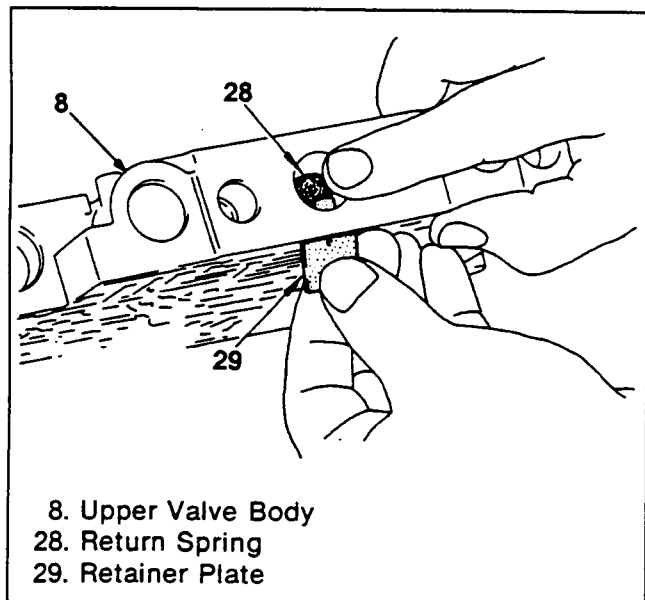

Figure 110. Retainer Plate Removal (2)
2. Remove retainer plate (total 4 pcs) while holding the inside parts with your fingers to prevent parts from popping out (figure 110).